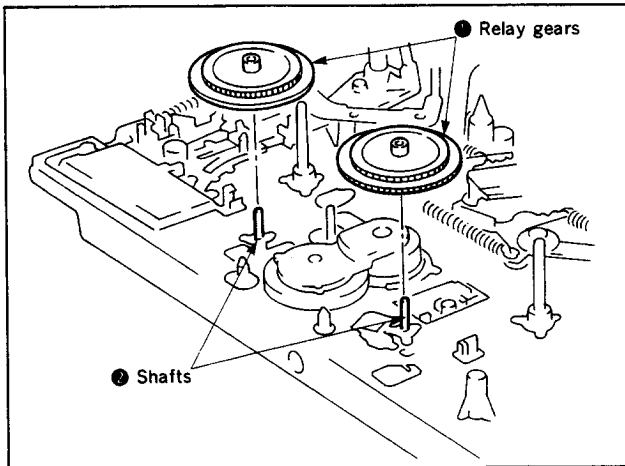

Fig. 3-26.
### 3-20. RELAY GEAR (Fig. 3-26)
- 2) Remove the sub-chassis. (Refer to Fig. 3-26.)
- 3) Disengage the claw ①, then pull out the limiter arm ②.
- 4) Disengage the two claws ③, then pull out the limiter slide plate ④.
- The shaft ⑤ must fit into the hole ⑥.